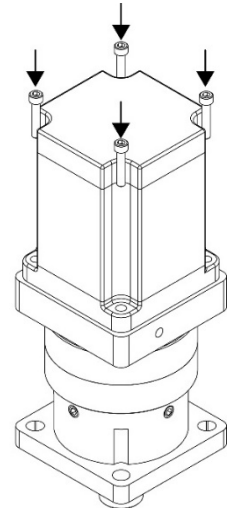

Figure 4
- 5) Install the mounting screws to ensure alignment of motor to gearhead. Tighten the mounting screws in a cross pattern to 5% of the required torque for the mounting screws. If possible, mount motor to gearhead in vertical position (Fig. 4)
- 7) Tighten the mounting screws (Fig 4) to their required torque.